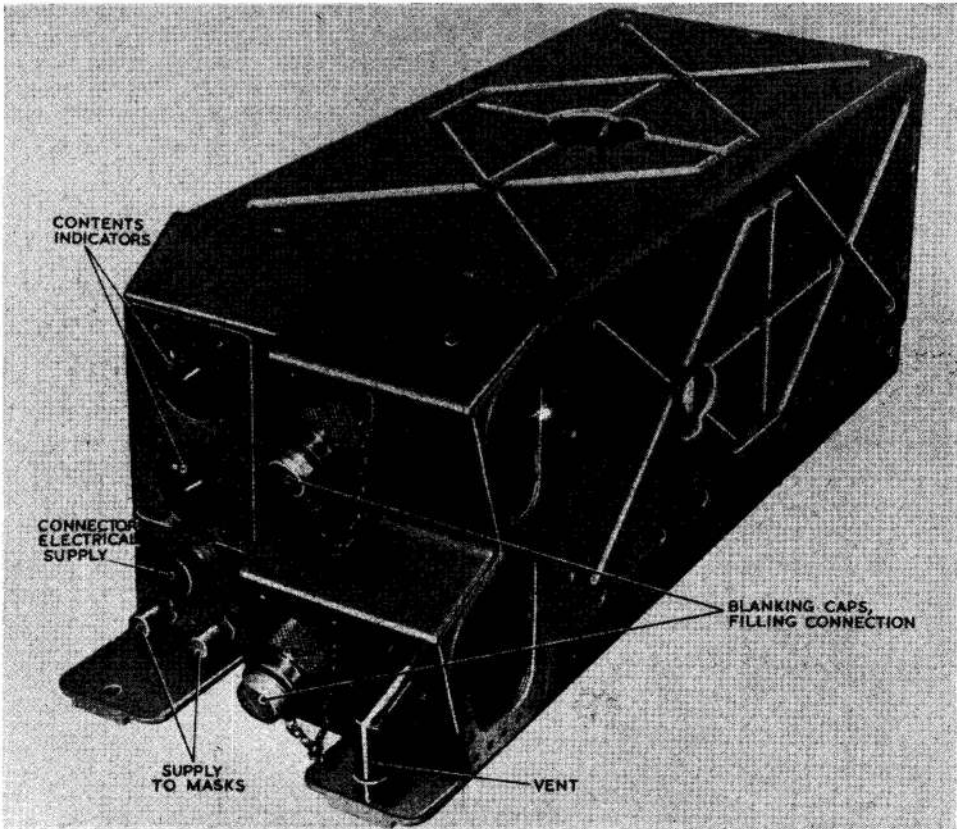
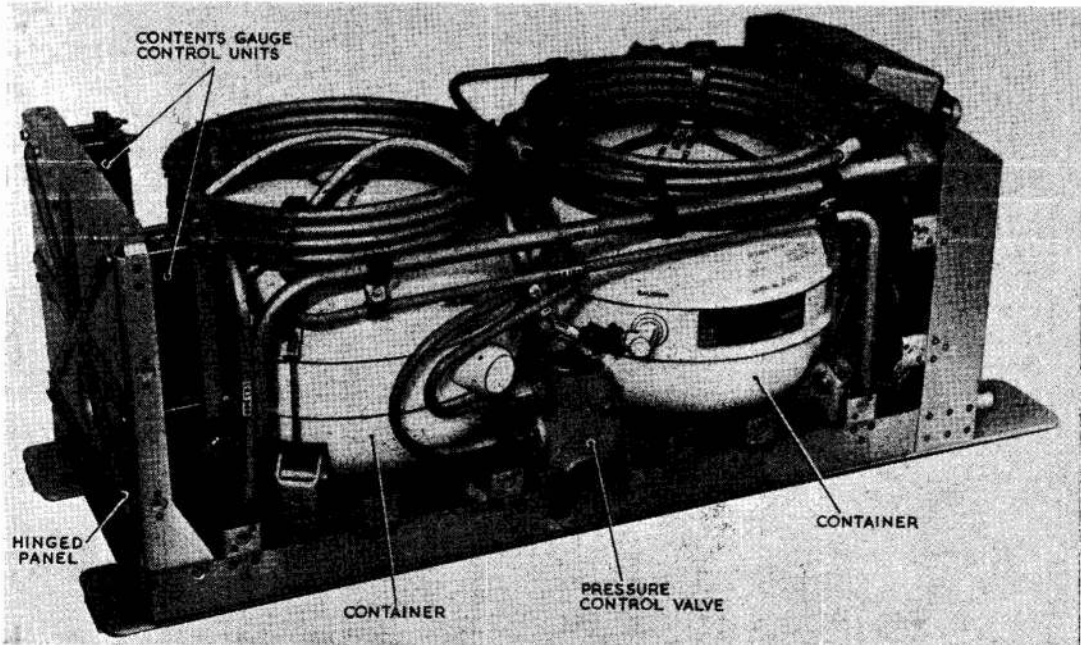
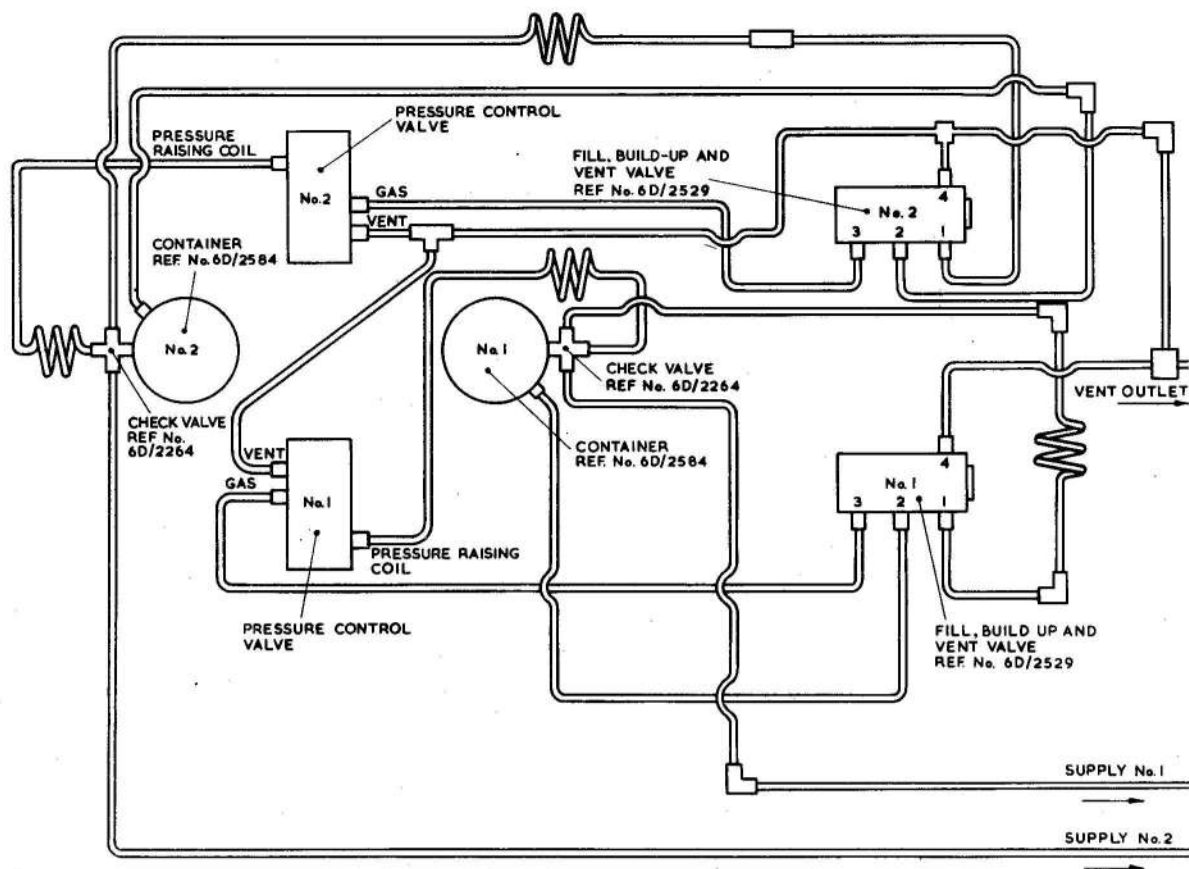

Fig. 1. Liquid oxygen package unit (802548), Ref. No. 6D/2527
Fig. 2. Cover removed, showing layout of systems
Fig. 3. Diagram of pipelines and components (Schematic)
3. The systems are mounted in tandem on a common base plate assembly which incorporates drip tray, front and rear end panels. Referring to fig. 1, the front panel embodies the filling and vent connections, indicators 1 and 2, oxygen supply connections 1 and 2, and electrical connection for aircraft d.c. supply. The rear panel is hinged (fig. 2) and may be moved to a horizontal position for access to the contents gauge control units. Located immediately under the base are two longitudinal supports provided as a means for fixing the unit in aircraft.
5. The fill, vent and build-up valve (802168) Ref. No. 6D/2529 is located in fig. 3. These two items are identical in construction and application. They are mounted in the front panel of the unit one above the other, extending through the panel (fig. 1) and tilting downwards to facilitate the connecting up of the liquid oxygen replenishing hose. For further details of construction and principle of operation, reference should be made to Sect. 1, Chap. 1.
6. The pressure control valve (802704) is also duplicated in this unit, both valves are secured to the base assembly. The pressure control valve shown in fig. 2 operates in conjunction with the foremost liquid oxygen system. A corresponding pressure control valve, for the rear liquid oxygen system, is located at the other side of the unit. This valve is described in Sect. 1, Chap. 2.
8. Two contents gauge control units, (802213) Ref. No. 6D/2362 are mounted on the rear panel of this unit (fig. 3). These units are provided to convert capacitance values, provided by the quantity of liquid oxygen available in the container, for reproduction in a contents indicator located on the front panel. This item is described in Sect. 2, Chap. 1.
9. Two contents indicators (803161) Ref. No. 6D/2605 are employed as shown in fig. 1. They